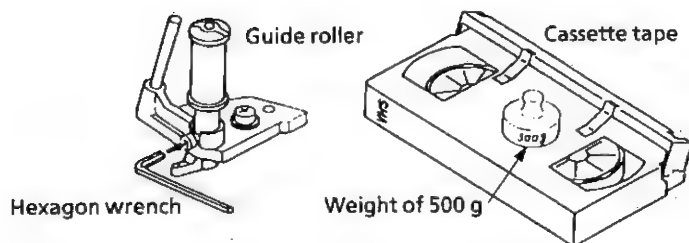

Figure 1-52.
- b) Loosen the setscrew at the lower part of the guide roller, and adjust it with an adjusting screw driver (JIGDRIVERH-4) so that the guide roller turns smoothly. (Do not overloosen the setscrew, which causes insecurity of the guide roller.) (See Figure 1-52.)